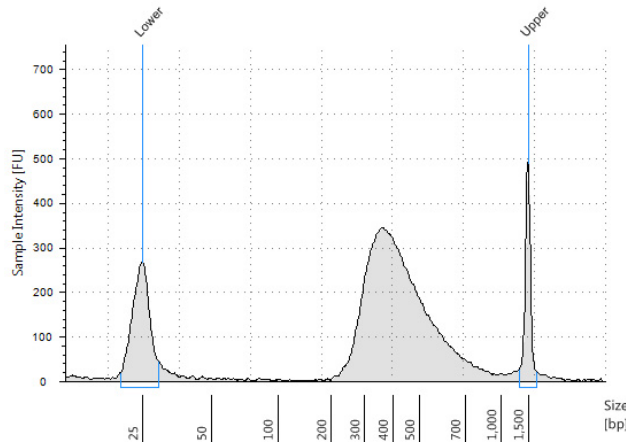

Figure 12 Post-capture library DNA analyzed using a High Sensitivity D1000 ScreenTape.
- 3 Verify that the electropherogram shows the peak of DNA fragment size positioned between 325 and 450 bp. A sample electropherogram is shown in **Figure 12**.